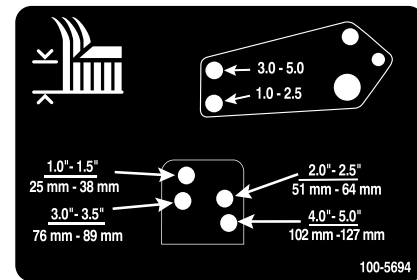

Figure 23
10. Align the damper-link holes with the selected height-of-cut bracket holes in the mower-deck frame, insert the clevis pins, and install the hairpin cottes (Figure 23).